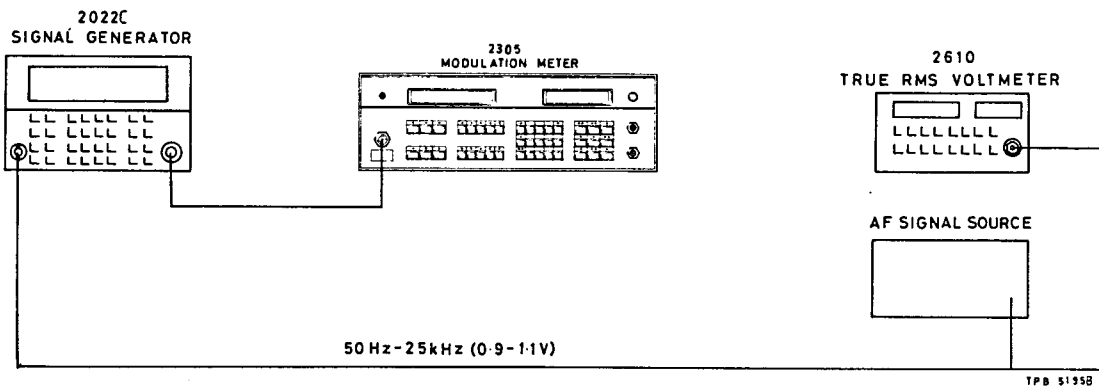

Fig. 5-8 Test gear arrangement to check external modulation
(1) Because AM, FM and Φ M external modulation use a common circuit configuration, checking need only be carried out with one type of modulation input. Connect the test equipment as shown in Fig. 5-8 and set the 2022C controls as follows :
13. (1) Connect test equipment as shown in the Fig. 5-8. Maintain 2022C settings with the exception of the MOD ALC key. Press this to disable the ALC (adjacent LED should be extinguished).